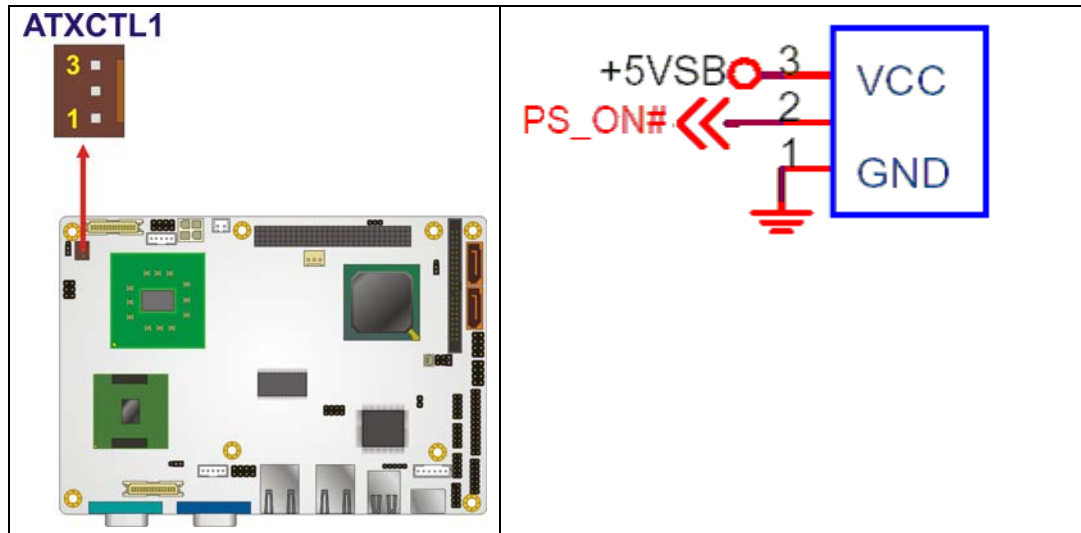

Figure 3-5: ATX Power Supply Enable Connector Location
- CN Location:** See **Figure 3-5**